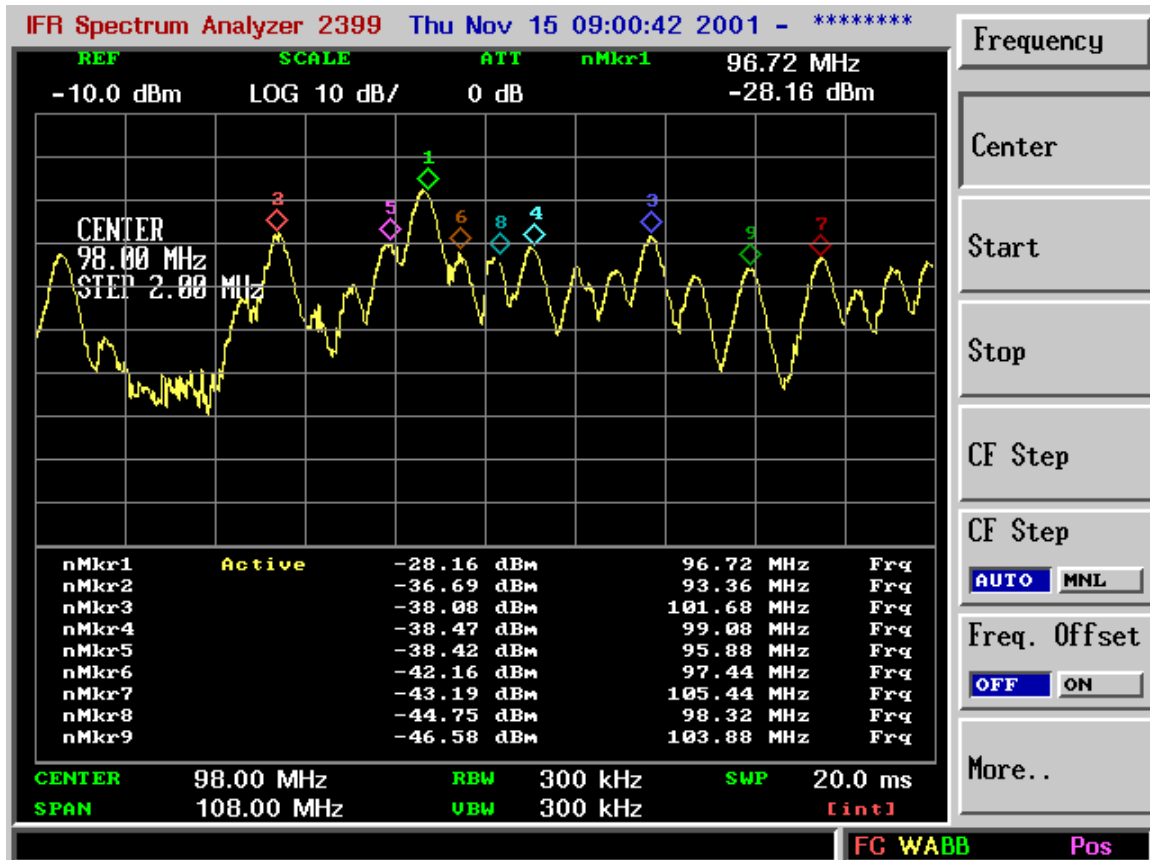

Fig. 1
- 1.12 Fig. 1 is a screen dump of a typical spectrum analyzer display. The trace displays the FM broadcast band with markers on the nine top peaks and their frequency on a table. Both the span and resolution bandwidth (RBW) are wide to enable a fast sweep speed. The markers and table quickly show points of interest with their frequency and level in a table format. All other information about the spectrum analyzer settings is visible on the picture.